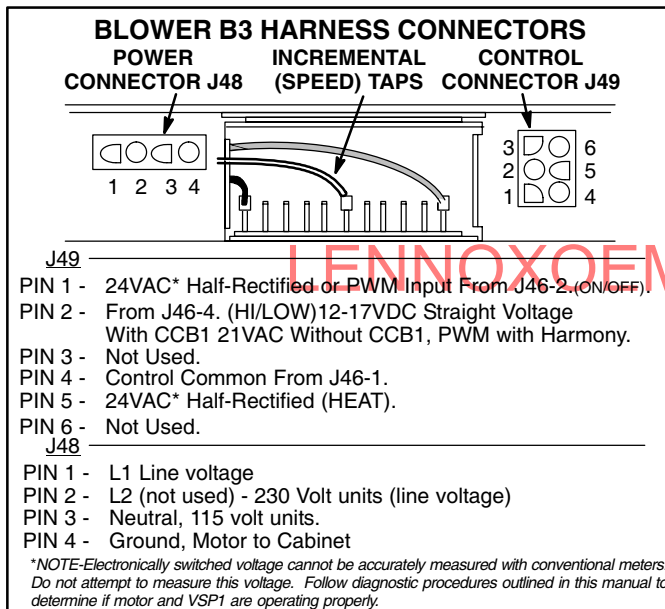

FIGURE 37
Figure 37 shows the two quick-connect jacks (J48 and J49) which connect the motor to the G21V/GSR21V. Jack J48 is the power plug and jack J49 connects the unit controls to the motor. The power plug must be removed to gain access to the incremental (speed) taps.
- 3 - Disconnect AC power plug P48 from motor/controller. See figure 37.